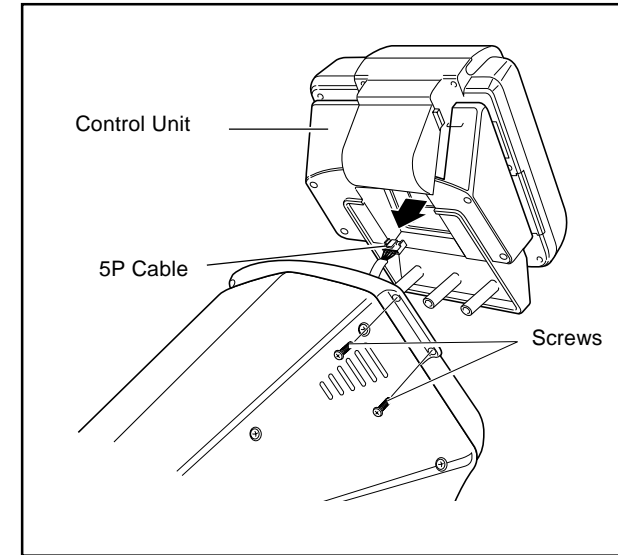

Fig. 10
1. Loosen the four screws which fix the control unit to remove the control unit. Also, remove the cable connector. (Fig. 10)